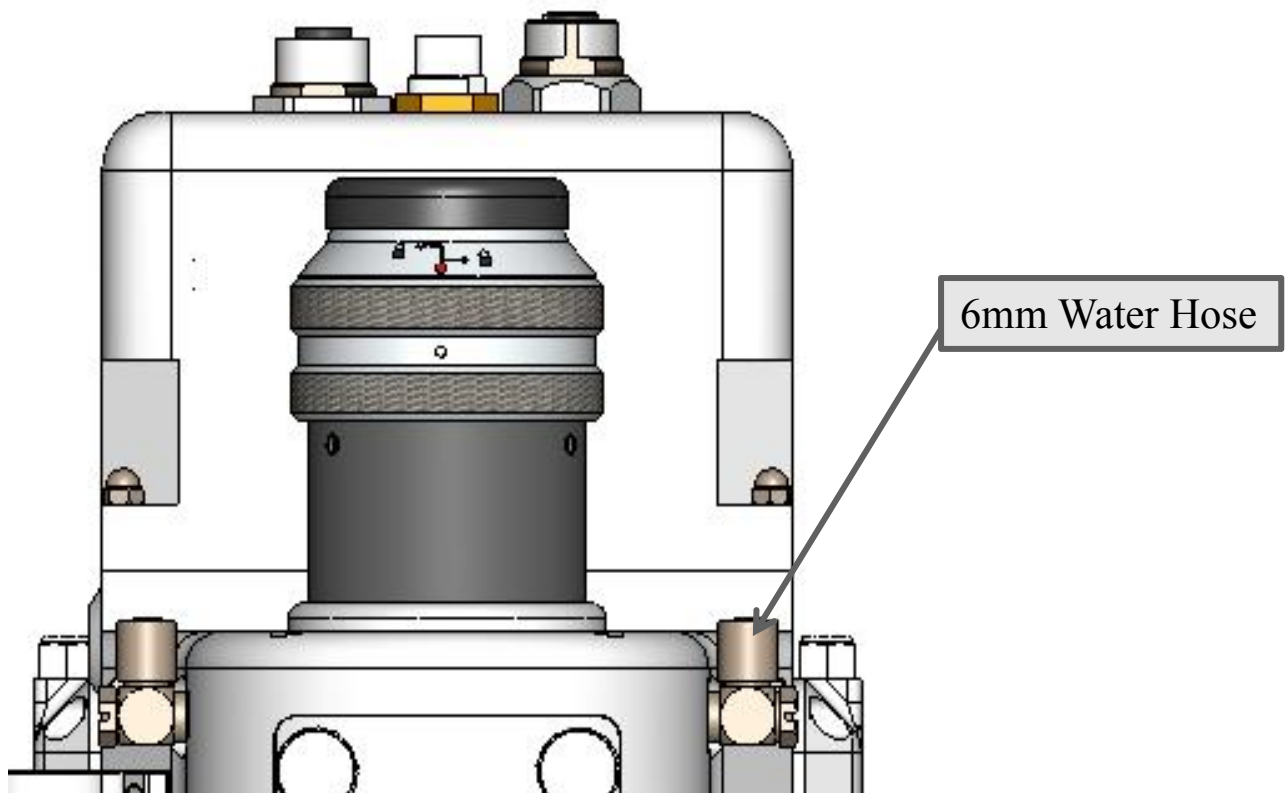

Figure 1.6
- ① Used for cooling QBH and reflector, with 1-inlet and 1-outlet cooling connection, as shown in Figure 1.6.